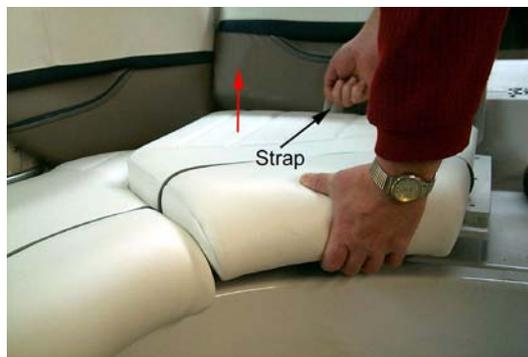

Figure N29: Sun Lounge Lifting Strap
- 1) Lift up on the seat strap and front portion of the seat cushion simultaneously until the cushion/backrest clears the seat cushion. See Figure N29.